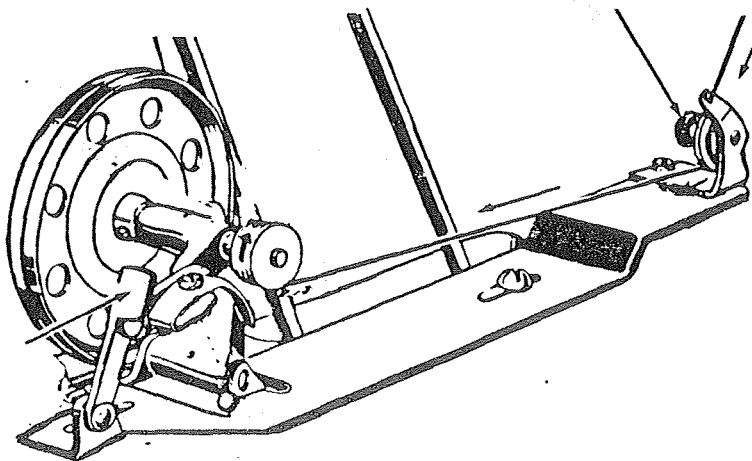

FIG. 9
BOBBIN WINDING (Fig. 9)
Push the bobbin on bobbin winder spindle as far as it will go. Pass thread from thread stand downward through eye (1), Fig. 9, in tension bracket; then between and around the back of the tension discs (2) bring thread forward toward bobbin (3) and wind from below in clockwise direction several times around bobbin. Push bobbin winder lever (4) downward until wheel (5) contacts the drive belt (6) and then start machine.